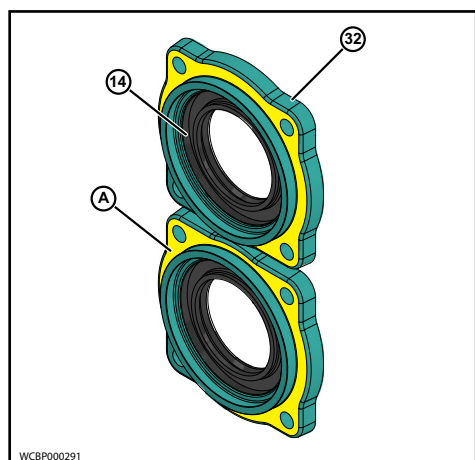

Figure 72 - Remove Sealant from Retainer
4. Remove the silicone sealant (Figure 72, item A) from the bearing retainer (32) and gear case.